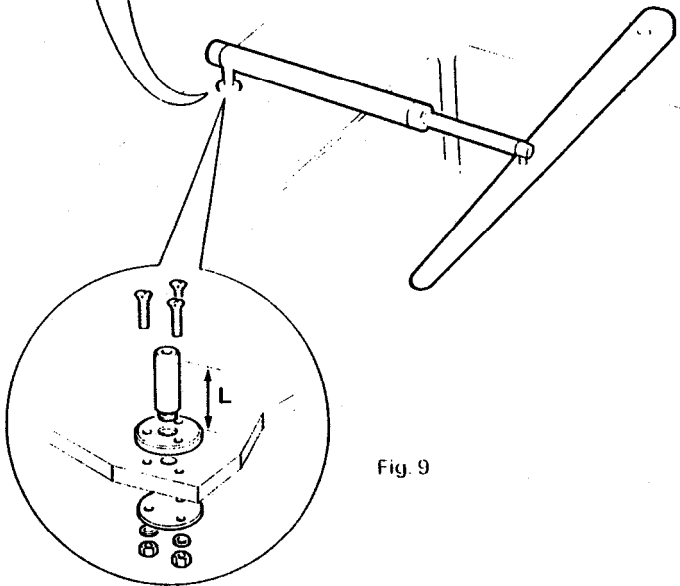

Fig. 9
- Mount the flange using 3 x 6mm (1/4") diameter bolts, nuts and washers, being sure the back plate is installed correctly. Bed the flange on a thin coat of silicone rubber sealant (Fig.9.)